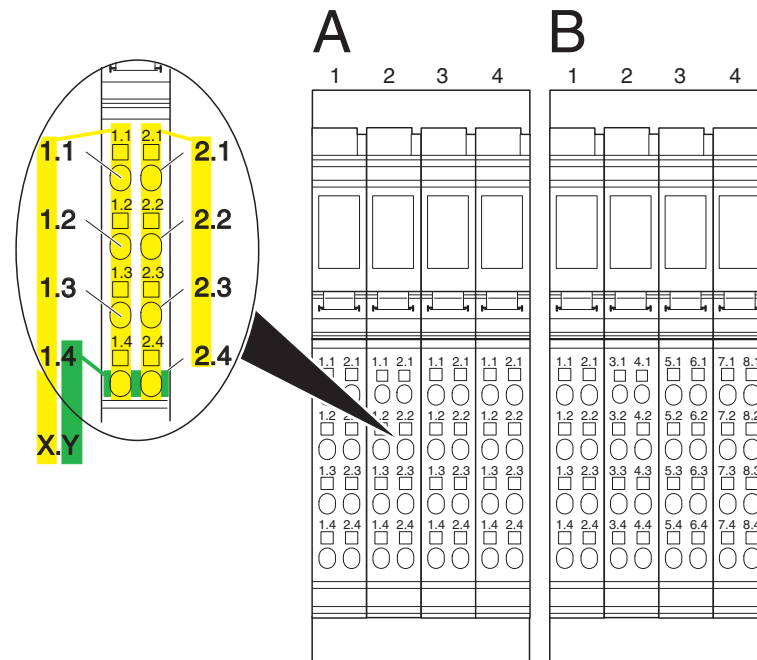

Figure 6-6 Terminal point numbering
The slots (connectors) on a base are numbered consecutively. This numbering is **not** indicated on the terminal (shown above the terminals in Figure 6-6).
**1 Terminal point numbering by connector** (detail A in Figure 6-6):
**2 Terminal point numbering by channel** (detail B in Figure 6-6):